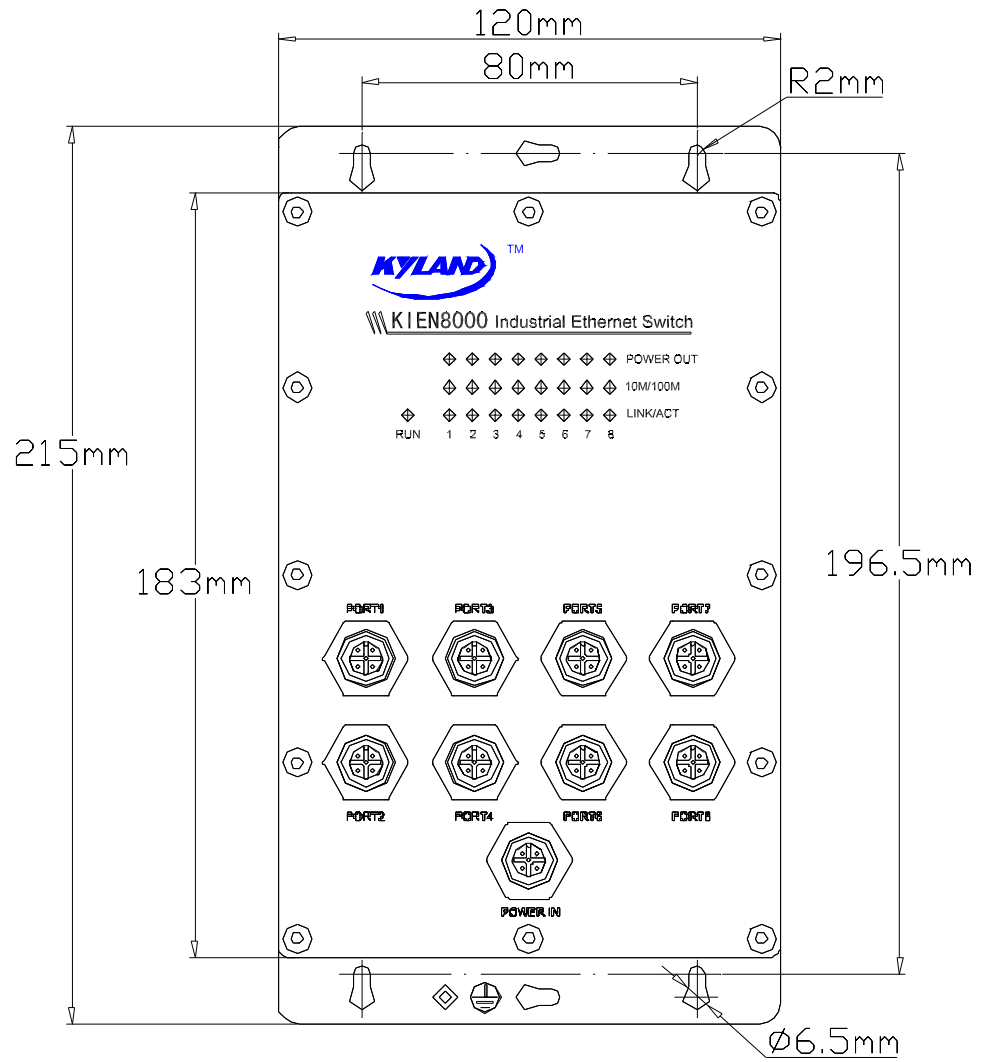

Figure 4-3 KIEN8000's 1st wall-mounting dimensions
In case that DIN rail-type mounting is inconvenient, it is better to adopt wall mounting. KYLAND Telecom provides users with wall mounting boards that are mounting parts for mounting of KIEN8000. The size of wall mounting is shown in the Figure 4-3 and 4-4.
- 2 . Select a vertical wall or internal wall of the switch cabinet as the mounting position. If the vertical wall is selected, recommend to mount the switch with $\Phi 6$ plastic expansion bolts and $\Phi 3$ tapping screws. In accordance with the mounting size in the Figure 4-3 or 4-4, drill 4 $\Phi 6$ holes on the wall with a impact electric drill with a depth that can completely contains the $\Phi 6$ plastic expansion bolts. Insert the plastic expansion bolts into holes on the wall and screw the tapping screws into the plastic expansion bolts with a cross head screwdriver. But do not screw them tightly and keep a space of about 5mm. If the internal wall of the switch cabinet is selected, recommend to open 4 M3 screw holes when the switch cabinet is manufactured in accordance with the mounting size in the Figure 4-3 or 4-4. Or drill 4 $\Phi 4$ holes with a electric portable drill on site. Screw four M3 \times 10 cross recessed pan head screws into 4 holes. If the holes have no threads, mount four M3 nuts on its back. At last, do not completely screw down screws and keep a space of 5mm.